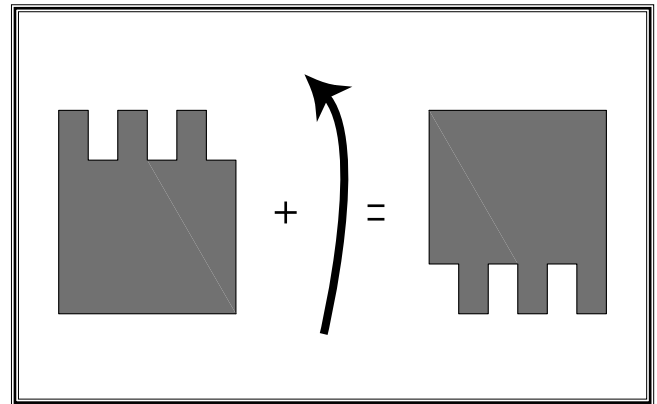

Figure 2. Flip the workpiece.
9. Unclamp and rotate the workpiece to rout the opposite end as shown in **Figure 2**.